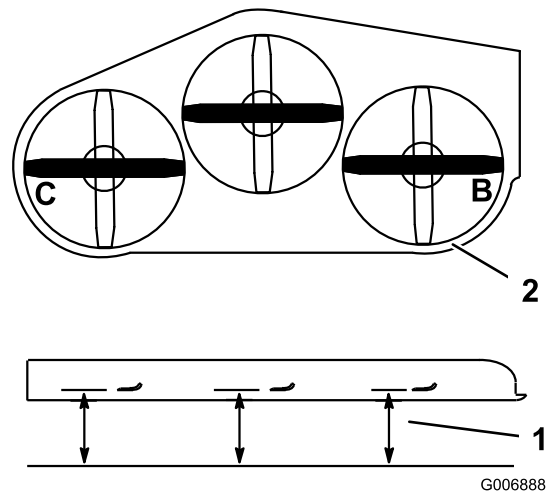

Figure 75
1. Position the **right** blade side-to-side (Figure 75).
2. Measure the right blade at the **B** location, from a level surface to the cutting edge of the blade tip (Figure 75).
4. Position the left blade side-to-side (Figure 75).
5. Measure the left blade at the **C** location (Figure 75), from a level surface to the cutting edge of the blade tip.